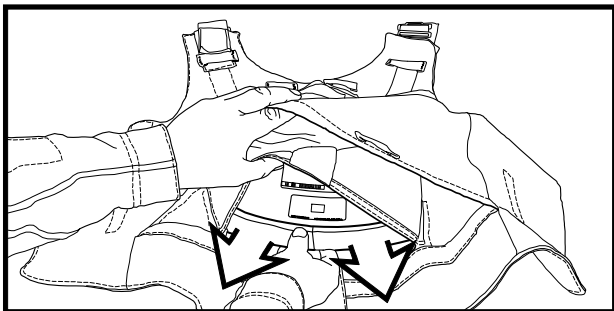

Figure 11. Removing ESAPI Plates.
- a. Remove SAPI/ESAPI plates from the front and back carriers, if installed (Figure 11).